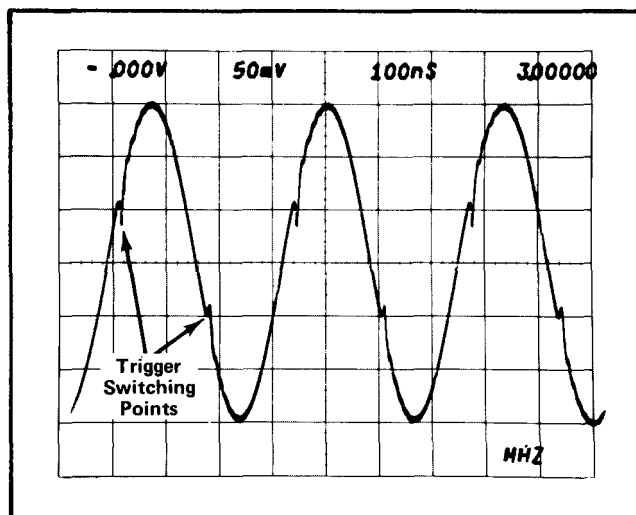

Fig. 5-3. Trigger switching points on sine-wave display.
j. CHECK—CRT display for the trigger switching points to be centered on the sine wave as shown in Fig. 5-3.